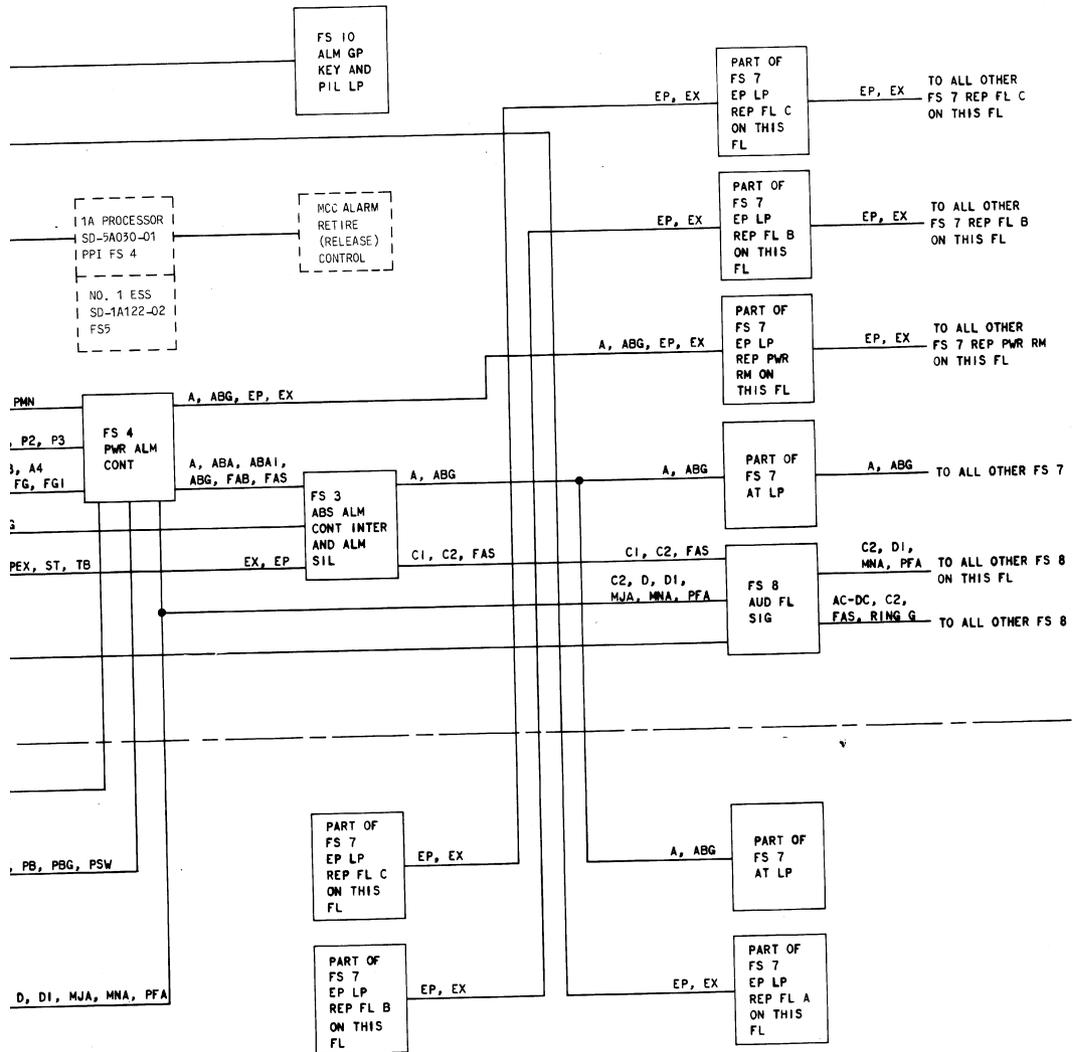

Fig. 14—No. 1 or No. 1A ESS Office Alarm System
4.01 The office alarm system may be activated by software or hardware. Processor frames are equipped with power control switches; keys on the switches control the state of the frame. Two scan points in the MCC scan point matrix are assigned to each switch to monitor its state. A blown fuse is detected by the switch, and is reported to the system by a change in state of the scan points. The switch also activates directly the major alarm in the office alarm circuit. Peripheral frames are equipped with keys to control the status of the frame. Each frame is assigned master scan points so that the system can monitor the frames status. A blown fuse will be reported by a change in state of the scan points, which activates directly the major alarm in the office alarm circuit. Transmission type frames also activate the alarm system directly via relay contacts. Refer to Figure 14 for the functional block diagram of the office alarm system.